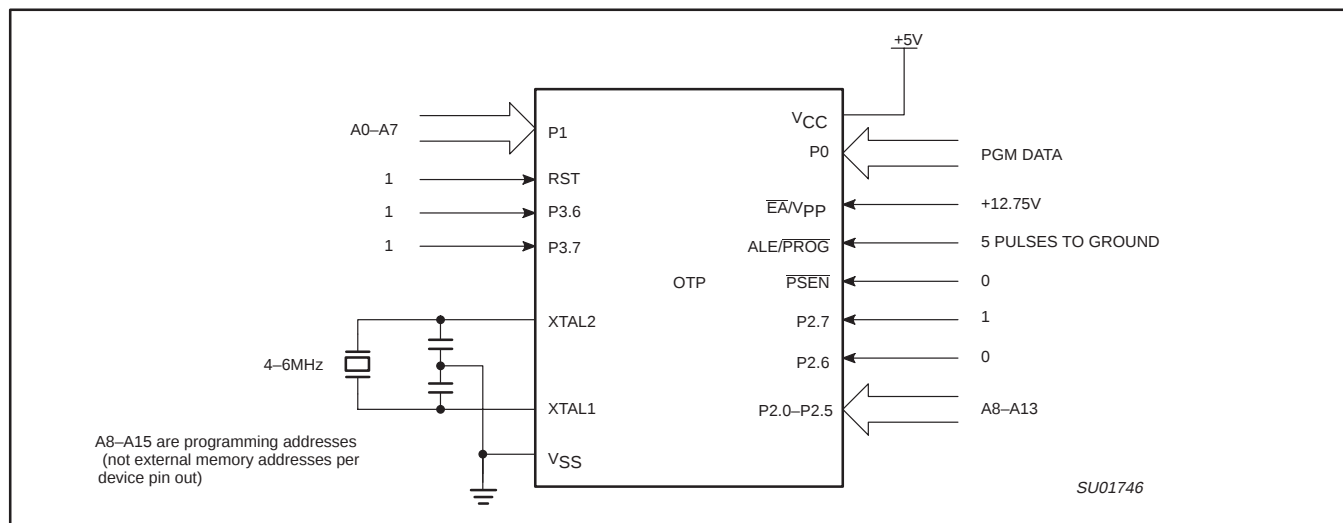
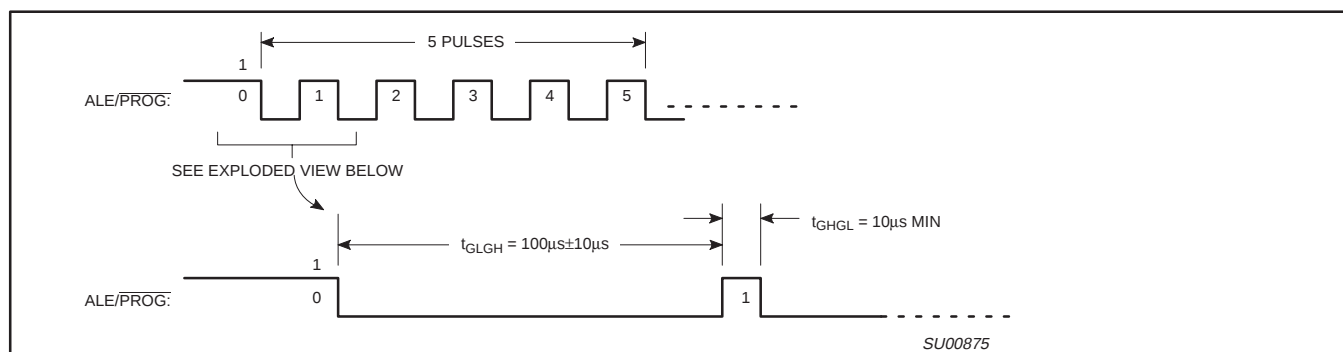
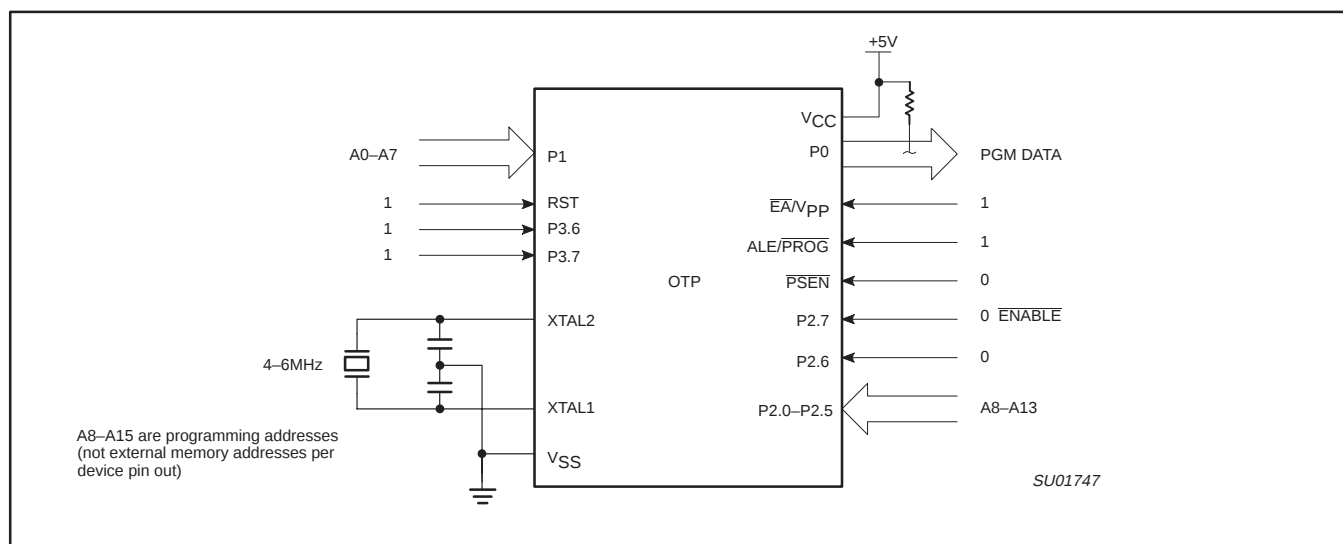

Figure 55. Programming Configuration
Figure 56. PROG Waveform
Figure 57. Program Verification
Table 15 shows the logic levels for reading the signature byte, and for programming the program memory, the encryption table, and the security bits. The circuit configuration and waveforms for quick-pulse programming are shown in Figures 55 and 56. Figure 57 shows the circuit configuration for normal program memory verification.
The setup for microcontroller quick-pulse programming is shown in Figure 55. Note that the device is running with a 4 to 6MHz oscillator. The reason the oscillator needs to be running is that the device is executing internal address and program data transfers.
The address of the EPROM location to be programmed is applied to ports 1 and 2, as shown in Figure 55. The code byte to be programmed into that location is applied to port 0. RST, $\overline{PSEN}$ and pins of ports 2 and 3 specified in Table 15 are held at the 'Program Code Data' levels indicated in Table 15. The ALE/PROG is pulsed LOW 5 times as shown in Figure 56.
If security bits 2 and 3 have not been programmed, the on-chip program memory can be read out for program verification. The address of the program memory locations to be read is applied to ports 1 and 2 as shown in Figure 57. The other pins are held at the 'Verify Code Data' levels indicated in Table 15. The contents of the address location will be emitted on port 0. External pull-ups are required on port 0 for this operation.
* FOR PROGRAMMING CONFIGURATION SEE FIGURE 55.
FOR VERIFICATION CONDITIONS SEE FIGURE 57.